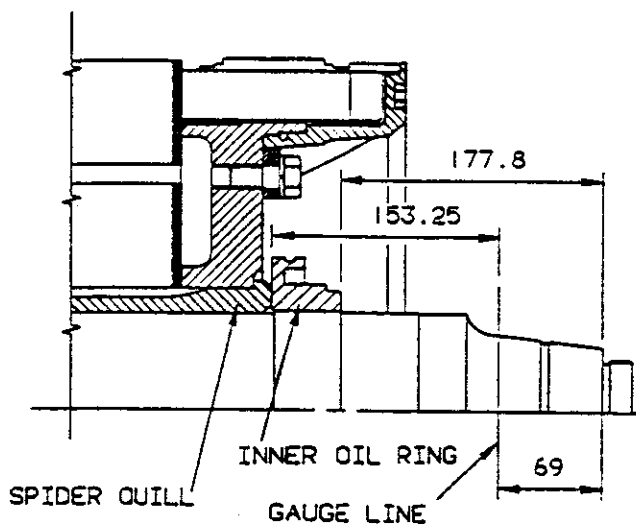

Fig. 12 - Pinion End Inner Oil Ring Assembly
allow to cool to room temperature, Fig. 12.
1. Check the pinion end dimension from the end of the shaft to the armature spider quill, Fig. 12.